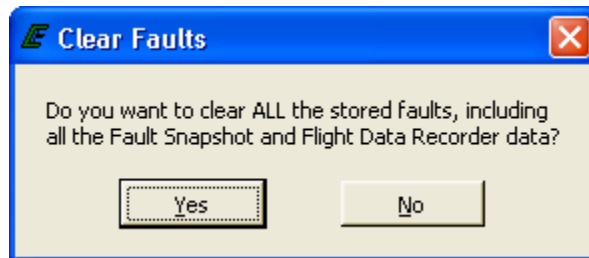

Figure 34: Clear Faults Prompt
Fault information may be manually erased using the “Clear” button functions. Once a “Clear” function has been selected, the dialog prompt shown in Figure 34 will be displayed. Choosing YES deletes all fault information from the ECM.
* Snapshot and flight data recorder data for historic faults is erased after the prompt shown in Figure 34 is satisfied